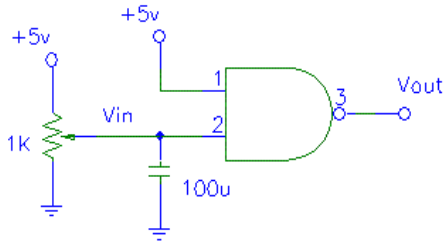

Figure 3
- a. Measure the output voltage versus input voltage: see figure 3.